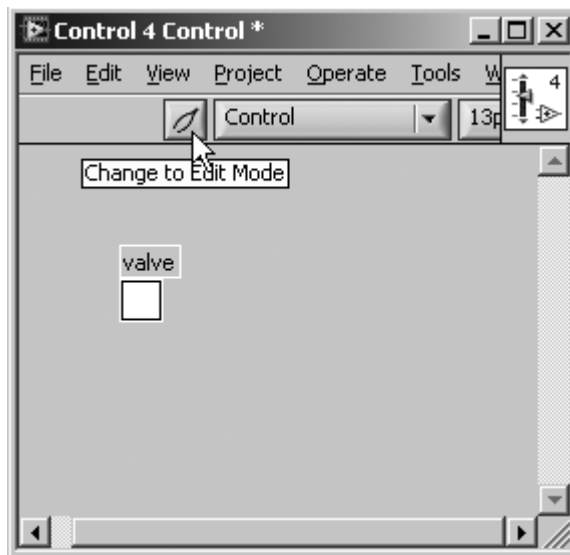

Figure 17.12
5. In Customize mode, which you access by clicking on the tool button, you can resize, color, and replace the various picture components of the control (see Figure 17.12).